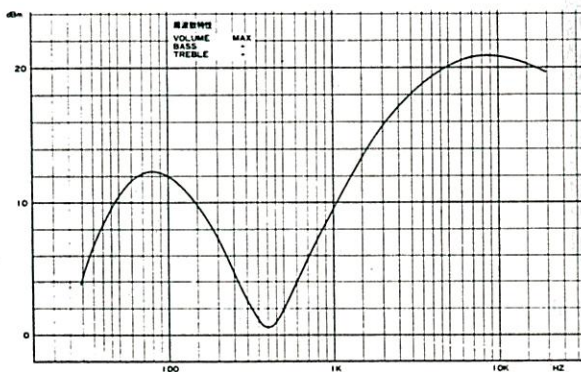

Fig. 3 Frequency Response Curves
3. The indicated responded output terminal should be within $\pm 3\text{dBm}$ of specified response curve (Fig. 3).